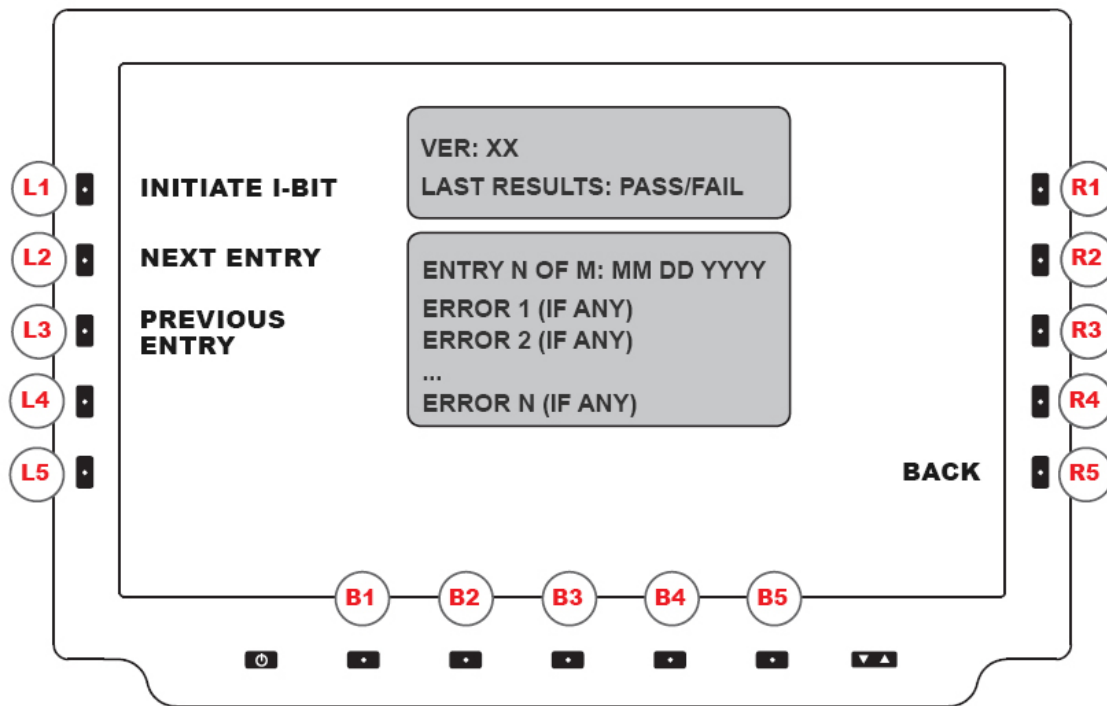

FIGURE 12
The DHDW1410 supports three (3) built-In-Test (BIT) components: Continuous BIT (C-BIT), Initiated BIT (I-BIT), and power-up BIT (P-BIT). BIT processes detect and isolate faults of the display to help the user identify the operational readiness, or where necessary, identify degraded or failed system conditions. C-BIT runs in the background; P-BIT runs at power ON. Results of BIT failures are stored in memory with time and date stamping, and will list in the Test Log box (Figure 12).